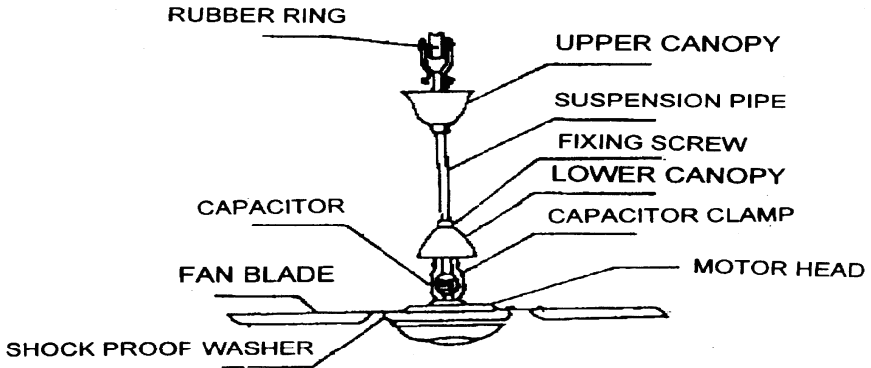

FIGURE 1
4. Tie the safety wire as shown in Figure 1~5 and screw safety wire to the pipe firmly.